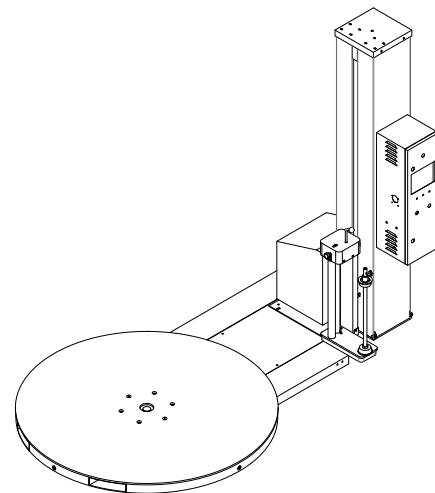

FIG 2-10
- 3) Buckle the film lifting assembly to the corresponding position on the upright stanchion and tighten them with 4 M8 screws, as shown in FIG 2-10.